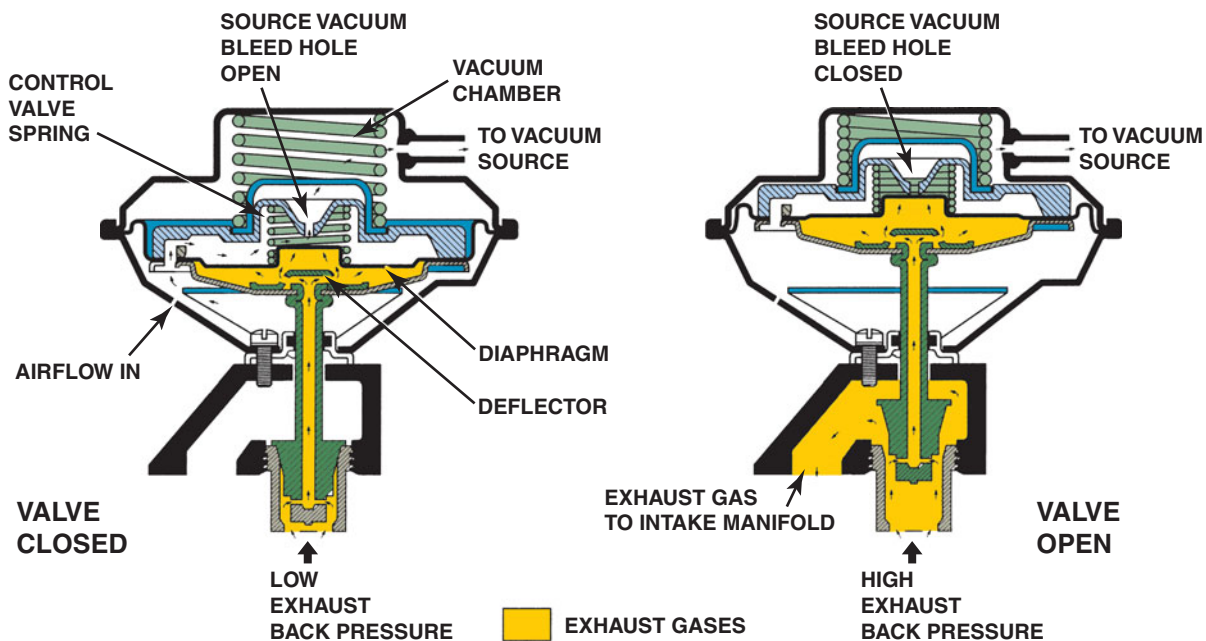

FIGURE 26-3 Back pressure in the exhaust system is used to close the control valve, allowing engine vacuum to open the EGR valve.
- **Positive back pressure EGR valves.** These EGR valves require a positive back pressure in the exhaust system. At low engine speeds and light engine loads, the EGR system is not needed, and the back pressure in it is also low. Without enough back pressure, the EGR valve does not open even though vacuum may be present at the EGR valve. ● **SEE FIGURE 26-3.**